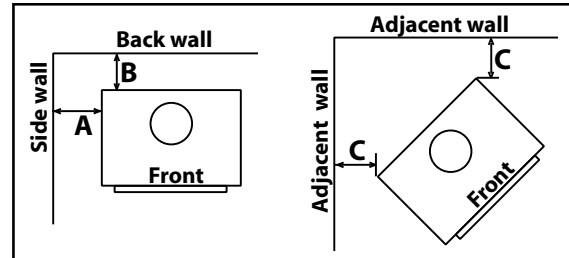

Figure 15: Clearances to combustibles.
- Remove the stove top and carefully lay the unit down on its back and install the four steel legs using the supplied hardware and a 7/16" wrench or socket (see Figure 15). Stand the stove up.